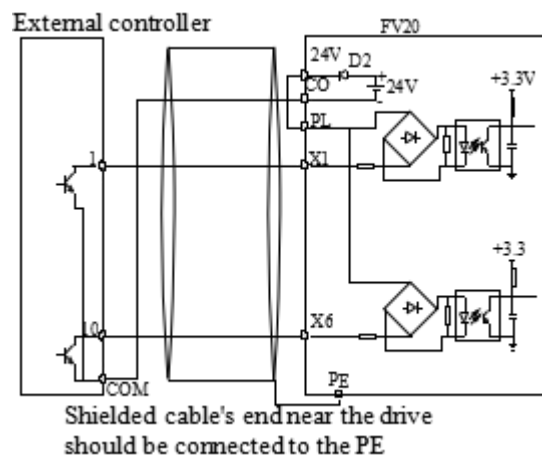

Fig.4-9 Use internal power supply for Source connection
1) Use internal +24V power supply of VFD and the external controller uses NPN transistors whose common emitter are connected, as shown in the fig.4-9”